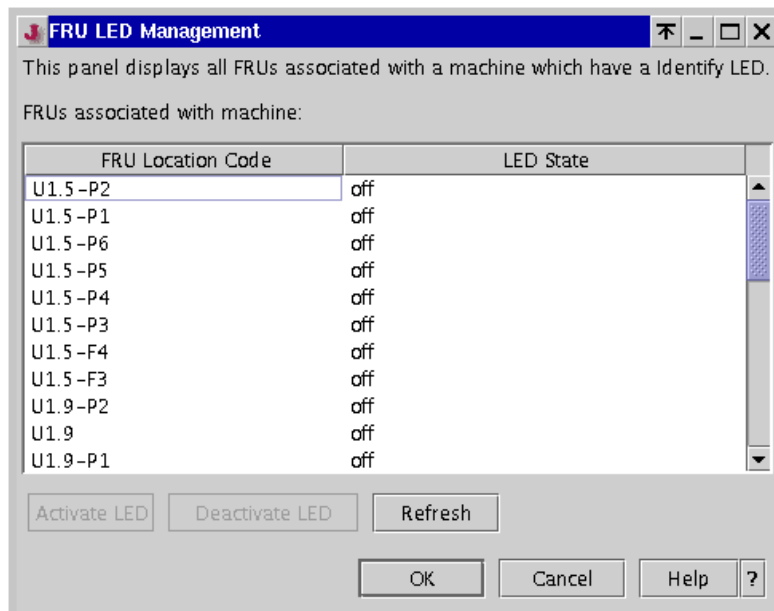

Figure 5-32 FRU LED Management
5. You will see the FRU LED Management window (Figure 5-32).